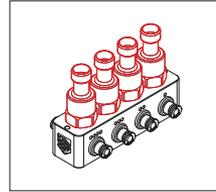

Abb. 15: Sensor block
2. Mounting in the optional pressure sensor block (Fig. 15))